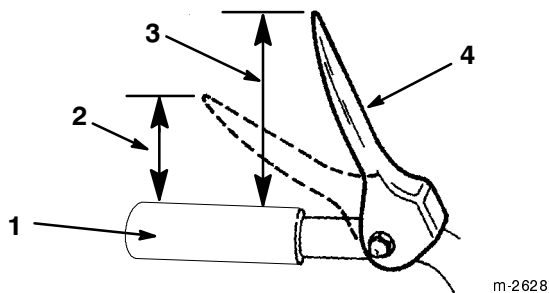

Figure 23
16. Check the distance between the top of the handgrip and the bottom of the auger/impeller drive control lever. The distance should be approximately four inches (10.2 cm) (Fig. 23).